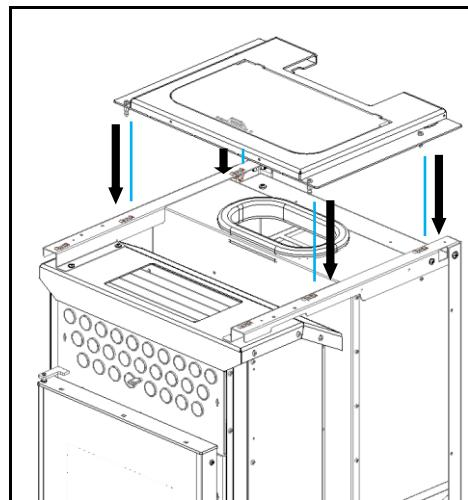

Figure 86 – Top cover placement
d) Then fit the lower holes **1** of the side covers into the guides **2** at the bottom of the machine, and then in the downward direction fit the tabs **3** into the slots **4** as shown in Figure 86.